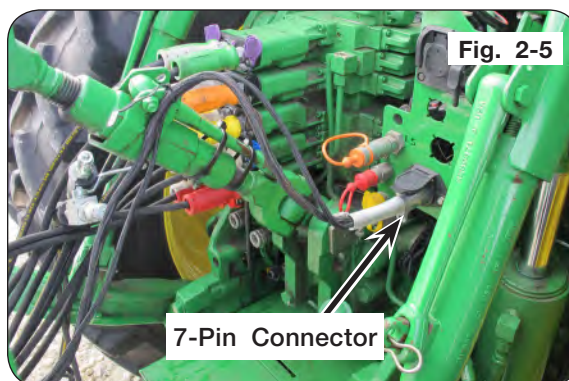

Fig. 2-5
5. Attach the 7-pin connector to tractor. (Fig. 2-5)